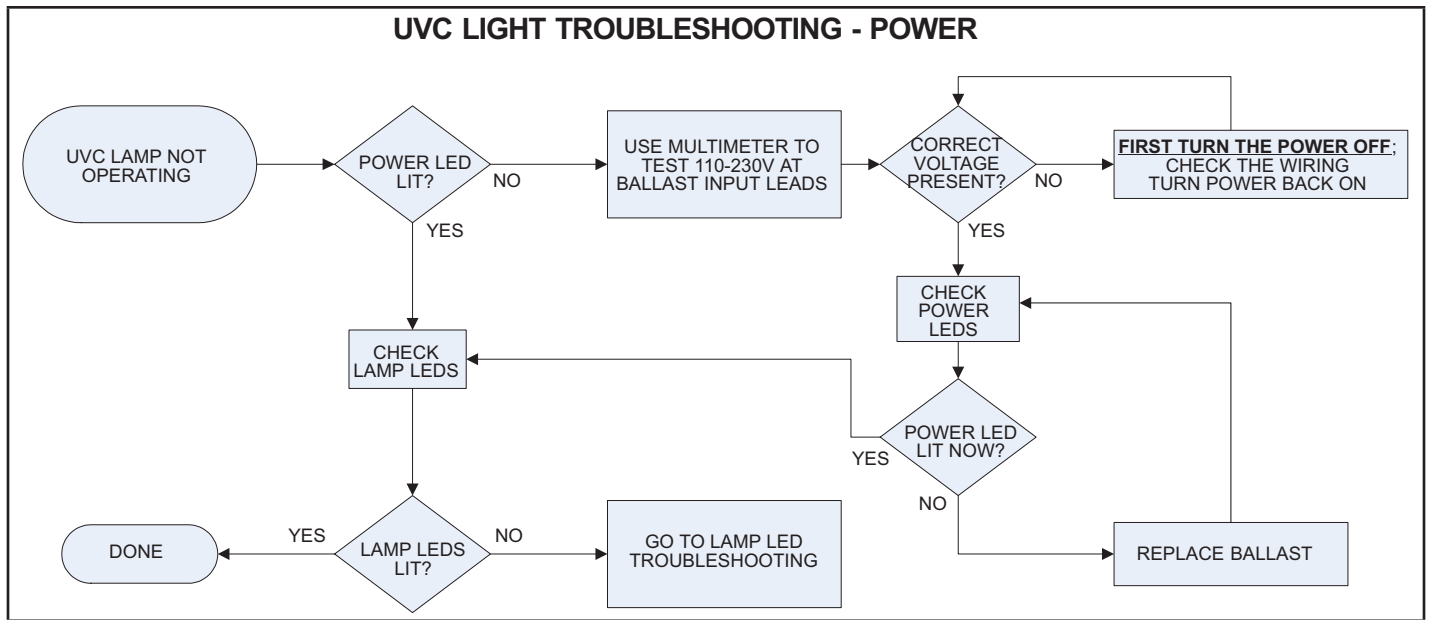
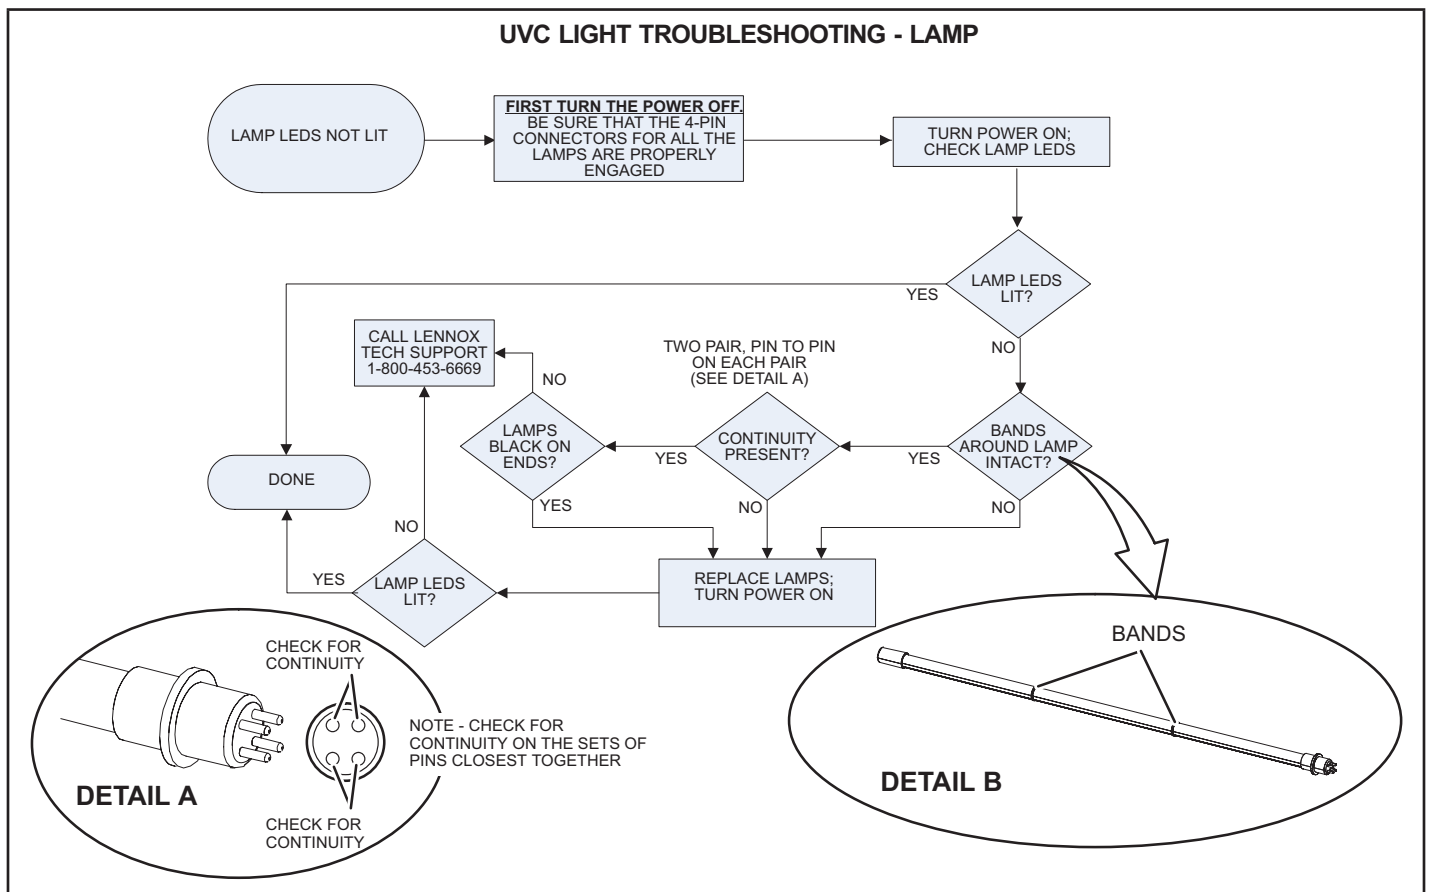

FIGURE 24
FIGURE 25
- 2 - Ohm-check across the lamp pins to check for continuity of lamp filaments (see FIGURE 25).
Troubleshooting charts are provided to aid in determining the cause of any problems encountered (FIGURE 24 and FIGURE 25).